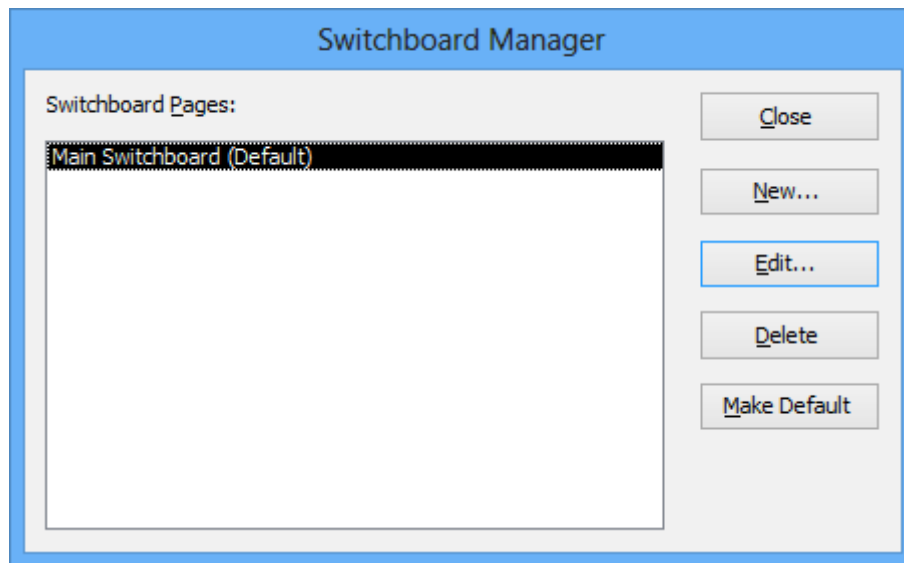

Figure 5: Switchboard Manager Window
4. Open the Edit Switchboard Window: In the Switchboard Manager window (Figure 5), click **Edit...** to open the Edit Switchboard window (Figure 6).